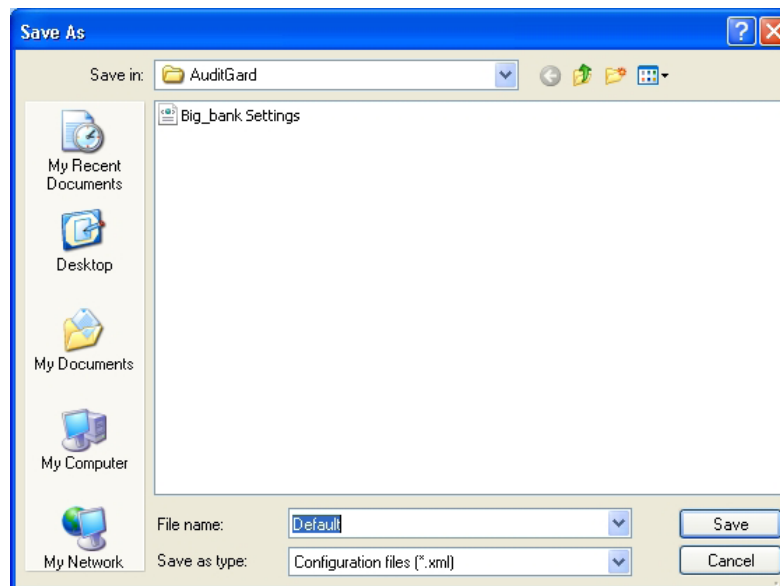

Figure 19
2. Name the file and click the **Save** button (Figure 19).